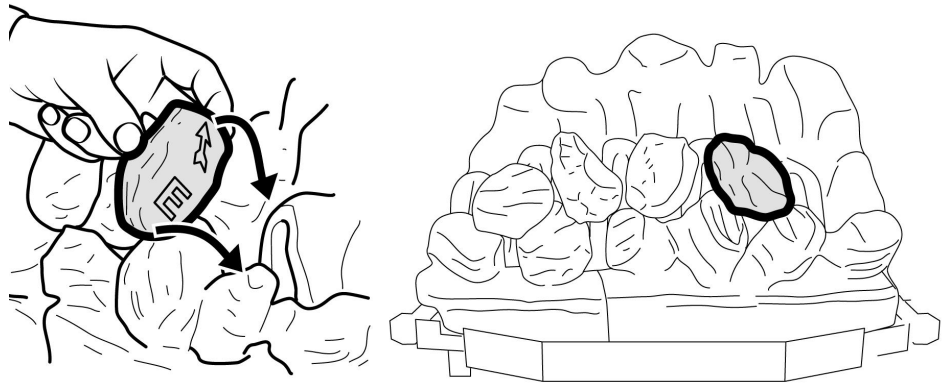

Figure 9. Second row "Coal E"
8. Hold coal 'E' upright with the arrow pointing to the top. Locate coal 'E' as shown in figure 9.